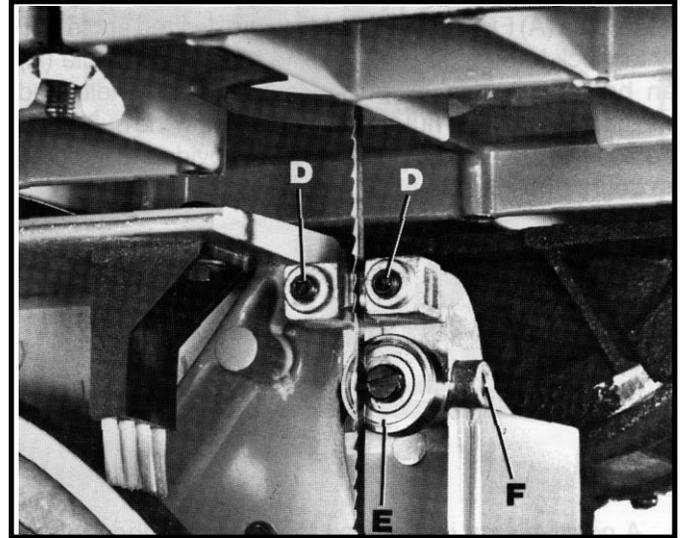

Fig. 24
3. The lower blade guides are held in the guide bracket with set screws (D) Fig. 24. Loosen set screws (D) and adjust blade guides as close as possible to the sides of the saw blade, being careful not to pinch the saw blade. Then tighten set screws (D).
4. The lower blade support bearing (E) Fig. 24, prevents the blade from being pushed back too far while cutting which could damage the set in the saw teeth. The lower support bearing (E) should be adjusted approximately 1/64" behind the blade by loosening set screw (F) and moving the support bearing in or out. When adjusted, tighten set screw (F).